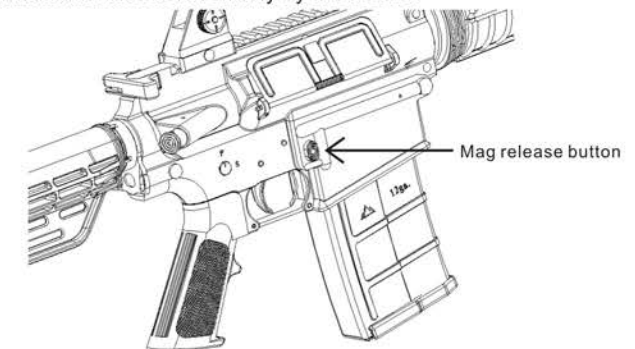

Fig. 3 Removing the magazine by pressing the right hand lock
3.2.2. Press the magazine lock from the left or right side of the gun and remove the magazine downward when it is unlocked (See Figs. 3 and 4).
4.1.1.1 While holding the stock in your left hand and the magazine in your right hand, push the magazine lock hard with your right thumb and pull it downward to remove it (See Fig. 3).